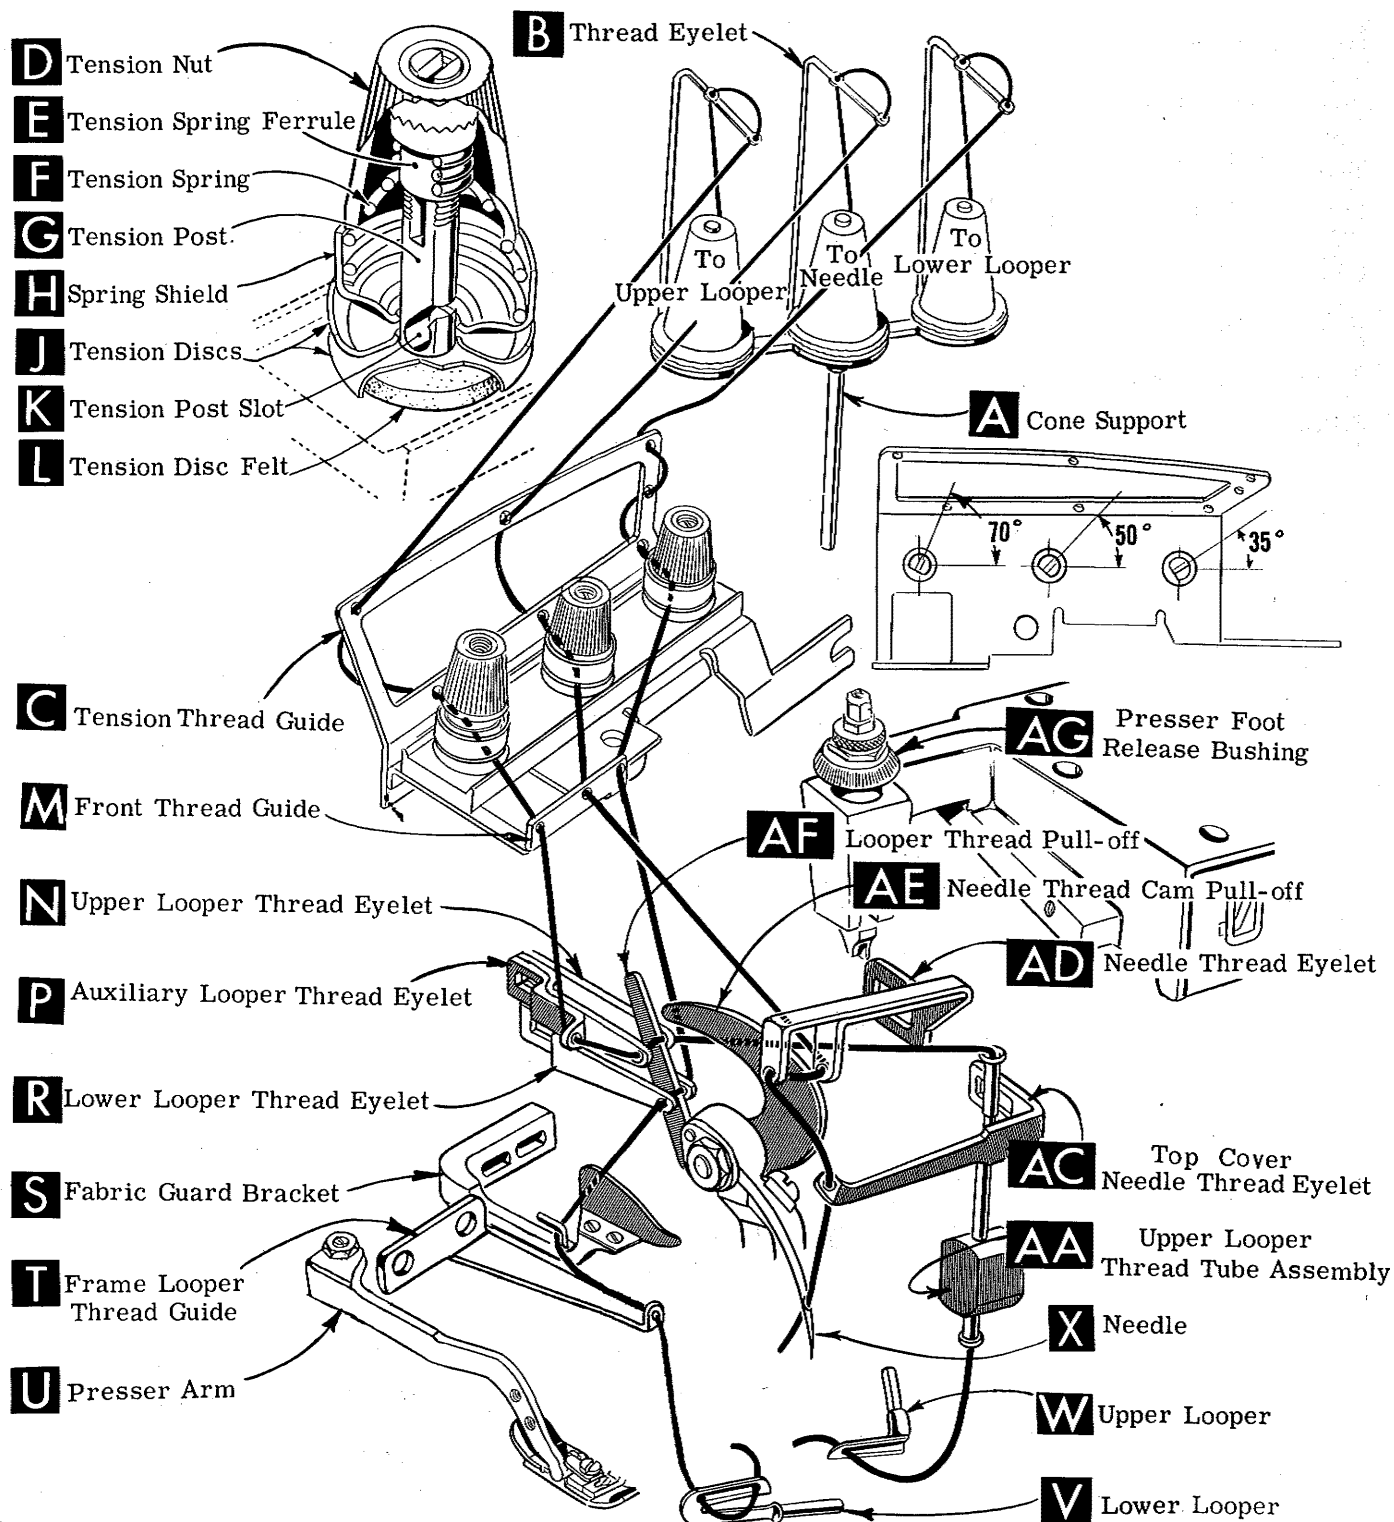
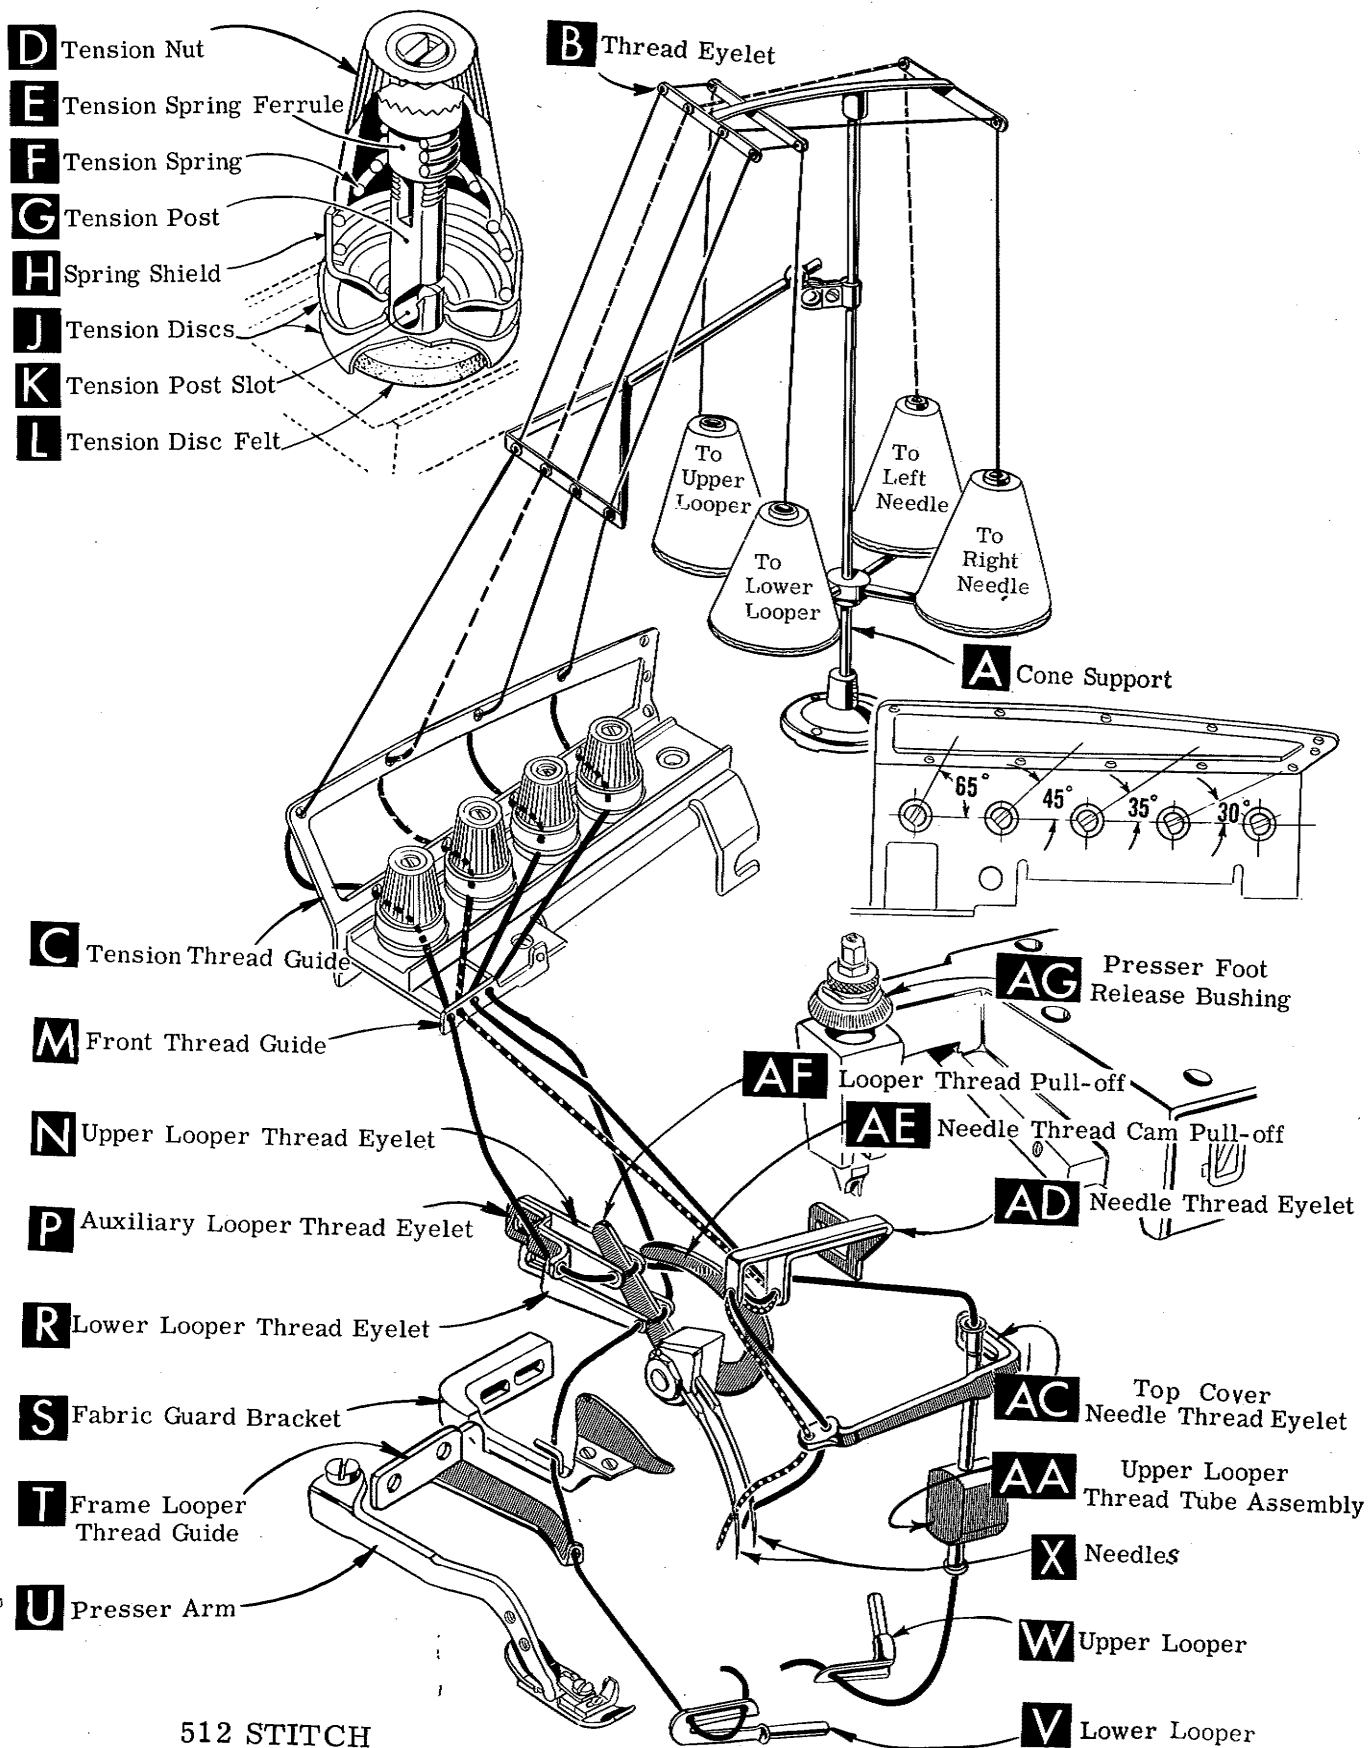

Fig. 1
Fig. 1A
Release pressure on presser foot by turning presser foot release bushing (AG, Fig. 1 or 1A) and swing presser arm (U) out of position. Turn handwheel in operating direction until needle is at its lowest point of travel. Using hexagonal socket wrench No. 21388 AU, furnished with machine, loosen needle clamp nut about 1/4 turn. Again turn handwheel until needle is at high position; withdraw needle.
After thread comes from cones on cone support (A, Fig. 1), it is brought up through back hole of thread eyelet (B), then down through the front hole of thread eyelet. Next it is threaded through the upper holes of tension thread guide (C) from front to back and then through the lower holes from back to front. It should be noted that the lower looper thread is threaded through the tension thread guide (C), first through the upper hole back to front, second through the middle hole front to back and third through the lower hole back to front. All three threads then continue between the tension discs (J), through tension post slot (K) in tension post (G) and on through front thread guide (M).
After thread comes from cones on cone support (A, Fig. 1A), the needle threads are threaded through the back bar of the thread eyelet (B) from back to front, under the middle bar and through the center holes of the front bar. The looper threads come from the cones, through holes of the middle bar from back to front and then through the two outside holes of the front bar. Next it is threaded through the upper holes of tension thread guide (C) front to back and then through the lower holes from back to front. The threads continue between the tension discs (J), through tension post slot (K) in tension post (G) and on through front thread guide (M).
NOTE: Refer to Fig. 1 for threading Styles 39500 QS, QT, RT, TJ, TM and TT, or refer to Fig. 1A for threading Styles 39500 RD, RL and TK.
Only parts involved in threading are shown in threading diagrams (Fig. 1 and 1A). Parts are placed in their relative positions for clarity.
The threading in Fig. 1 and Fig. 1A are the same, the only difference will be the threading of two needle threads in Fig. 1A as compared to one needle thread in Fig. 1. The additional needle in Fig. 1A moves the lower looper thread tension post to the right.
Be sure the threads, as they come from the tension thread guide (C), are between the tension discs (J) and in tension post slot (K) in tension post (G). The tension posts should be positioned so the tension post slot will be at the approximate angle for the different threads as indicated in Fig. 1 and 1A.
Double end of thread and lead it through the right eyelet of front thread guide (M, Fig. 1 or 1A). Then lead it through both eyes of lower looper thread eyelet (R, Fig. 1 or 1A) from right to left. NOTE: Thread must pass in front of looper thread pull-off (AF). Lead thread behind fabric guard (S) and through hole of frame looper thread guide (T). Turn handwheel in operating direction until heel of lower looper (V) is all the way to the left; then thread through both eyes from left to right. Left eye of lower looper can be threaded easily if tweezers are in left hand.
Thread upper looper thread through left eyelet of front thread guide (M, Fig. 1 or 1A). Turn handwheel until point of upper looper (W) is all the way left. Lead thread through auxiliary looper thread eyelet (P) from back to front, then through both eyes of upper looper thread eyelet (N) from left to right. NOTE: Thread must pass in front of looper thread pull-off (AF). After pulling up upper looper thread tube assembly (AA), lead thread under neck of top cover casting and down through thread tube assembly (AA). Pull thread out bottom of tube; push tube down, then insert thread through upper looper eye from front to back.
Thread needle thread through middle eyelet or eyelets of front thread guide (M, Fig. 1 or 1A). Turn handwheel in operating direction until needle (X) is at its highest position. Insert needle thread or threads from right to left, through both eyes of needle thread eyelet (AD), under neck of top cover casting; and then down through hole or holes in top cover needle thread eyelet (AC). Thread needle from front.
The amount of tension on needle and looper threads is regulated by tension nuts (D, Fig. 1 or 1A). Tension on threads should be only enough to secure proper stitch formation.